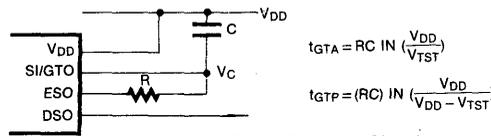

Fig. 5 Basic Steering Circuit
Before registration of a decoded tone pair, the receiver checks for a valid signal duration. This check is performed by an external RC time constant driven by ESO. A logic high on ESO causes V_C (see Fig. 5) to rise as the capacitor discharges. Providing signal condition is maintained (ESO remains high) for the validation period (t_{GTP}), V_C reaches the threshold (V_{TST}) of the steering logic to register the tone pair, thus latching its corresponding 4bits code (see Table 1) into the output latch. At this point, the GTO output is activated and drives V_C to V_{DD} . GTO continues to drive high as long as ESO remains high, finally after a short delay to allow the output latch to settle, the "delayed steering" output flag (STO) goes high, signalling that a received tone pair has been registered. The contents of the output latch are made available on the 4-bit output bus by raising the three-state control input (OE) to a logic high. The steering circuit works in reverse to validate the interdigit pause between signals. Thus as well as rejecting signals too short to be considered valid, the receiver will tolerate signal interruption (drop outs) too short to be considered a valid pause. This capability, together with the capability of selecting the steering time constants externally, allows the designer to tailor performance to meet a wide variety of system requirements.
In a situations which do not require independent selection of receive and pause, the simple steering of Fig. 5 is applicable. Component values are chosen according to the following formula: